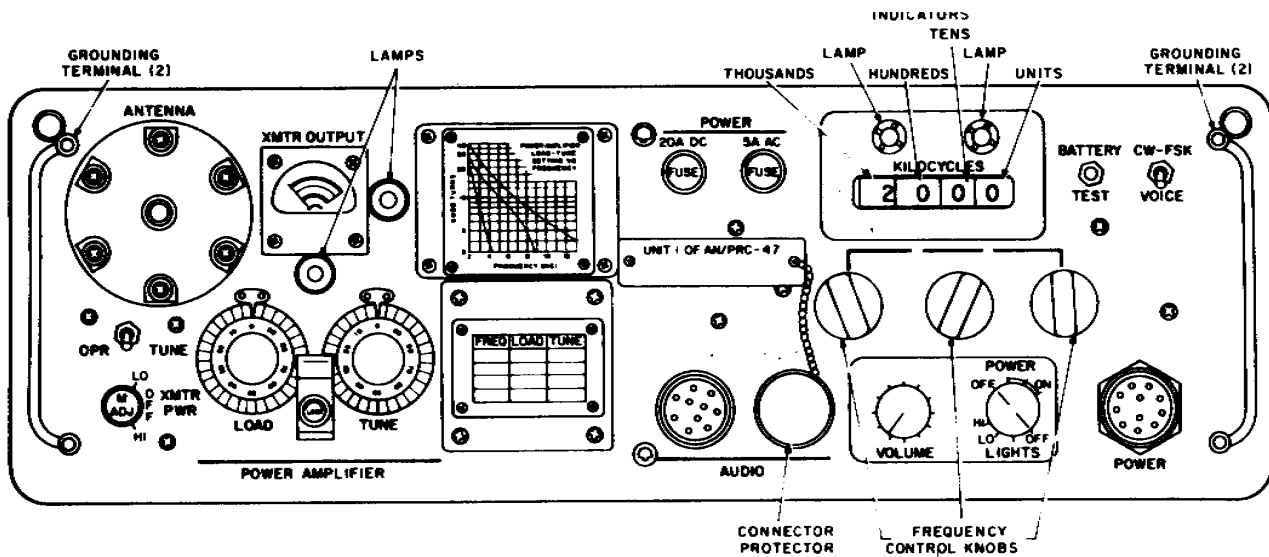

Figure 3-1. Receiver-Transmitter, Radio RT-671/PRC -7, front panel controls, indicators, and receptacles.
(2) Be sure the POWER/LIGHTS switch (fig 3-1) on the Receiver-transmitter control panel is at OFF/OFF.
(3) For the portable configuration, perform the following:
(b) Unwind the eight radials (two per leg) from the spools that form an integral part of each leg (fig. 1-6) and connect the short (terminated) end of each radial to the ground terminals (fig. 3-1) at each end of the receiver-transmitter front panel.
(c) Attach the threaded stud section to the ANTENNA connection on the front of the receiver-transmitter (fig. 3-1).
(1) *Portable.* During portable operation, the primary power source is the battery. For this configuration, install Adapter, Battery Terminal MX-4430/PRC-47 on top of the battery. Note that the adapter is keyed for one-way installation only. Place the connector portion of the adapter on the same side as the + and - stampings on the battery. Attach Cable Assembly, Power Electrical CX-8395/PRC-47 to the connector on top of the adapter before connecting the opposite end to the POWER connector on the RT-671/PRC47 front panel (fig. 3-1). Proceed to paragraph 2-9a.
(2) *Vehicle.* When the primary power source is a dc generator, be sure that the instructions in paragraph 2-8 have been implemented. Connect Cable Assembly, Power Electrical CX-8394/ PRC-47 to the source and then to the POWER connector on the RT-671/PRC-47 front panel (fig. 3-1). Proceed to paragraph 2-9c.
(1) On receiver-transmitter, set POWER/LIGHTS switch (fig. 3-1) to ON/LO.
(2) Press BATTERY TEST pushbutton and check that XMTR OUTPUT meter indicates in white area. If meter indicator does not deflect, check that 20A DC POWER fuse is not defective. If the fuse is defective, replace it.
(3) If fuse is not defective, check cable CX-8395/PRC-47. If cable is defective, replace it.
(4) If meter indicator deflects, but not in white area, check the battery (open-circuited) with the multimeter. The multimeter should indicate at least + 29.2 volts dc. If not, substitute another battery and repeat these procedures. For the defective battery, refer to TM 11-6140-208-15.
(5) Set POWER/LIGHTS switch to OFF/ OFF.
(1) Be sure the POWER/LIGHTS switch (fig. 3-1) is at OFF/OFF.
All controls, indicators, and receptacles used by the operator are located on the front panel of Receiver-Transmitter, Radio RT-671 /PRC-47. The front panel controls and indicators are illustrated in figure 3-1 and described in detail in paragraph 3-2.
Each panel-mounted control or indicator (fig. 3-1) is listed in the following chart and a functional description is provided to assist the operator in the proper performance of his duties.
- a. Set POWER/LIGHTS switch (fig. 3-1) to OFF /OFF.
- a. Set POWER/LIGHTS switch (fig. 3-1) to ON/LO and allow a minimum of 5 minutes for stabilization.
- a. Set POWER/LIGHTS switch (fig. 3-1) to ON /LO and allow a minimum of 5 minutes of stabilization.
a. Verify that CW-FSK/VOICE switch (fig. 3-1) is at VOICE.
a. Set the CW-FSK/VOICE switch (fig. 3-1) to CW-FSK for both reception and transmission; set the switch to VOICE for reception only.
a. Mount Adapter, Cable to Connector U-239/PRC-47 (fig. 1-8) to either AUDIO connector on the receiver-transmitter front panel (fig. 3-1).
c. Set the CW-FSK/VOICE switch (fig. 3-1) to CW-FSK for both reception and transmission; set the switch to VOICE for reception only.
a. Set XMTR PWR switch (fig. 3-1) to OFF.
- d. Set the XMTR PWR switch (fig. 3-1) to LO.